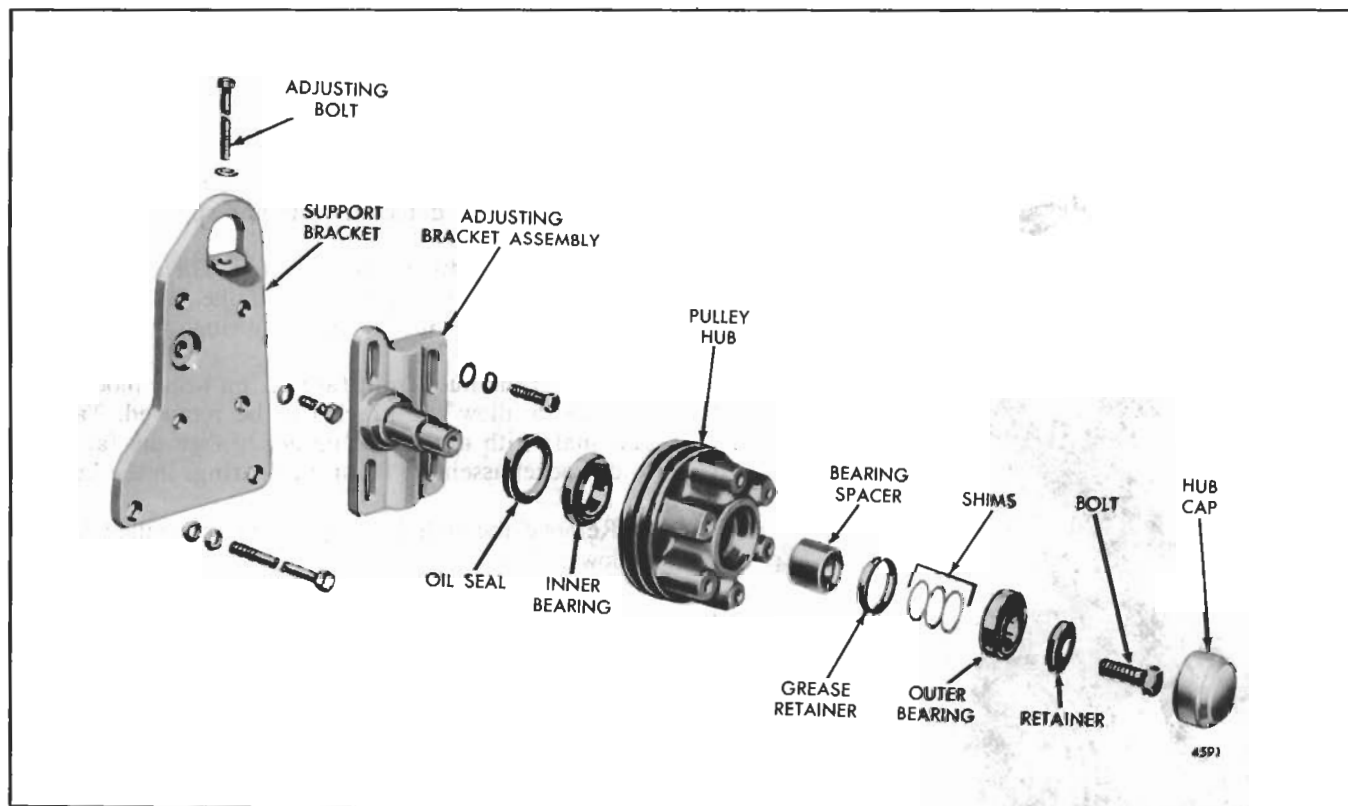

Fig. 3 - Fan Pulley, Hub and Adjusting Bracket Details for Compact Front End Engines
**Disassemble Fan, Hub and Bracket (Compact Front End - Fig. 3)**
#### Assemble Hub and Bracket (Compact Front End - Fig. 3)